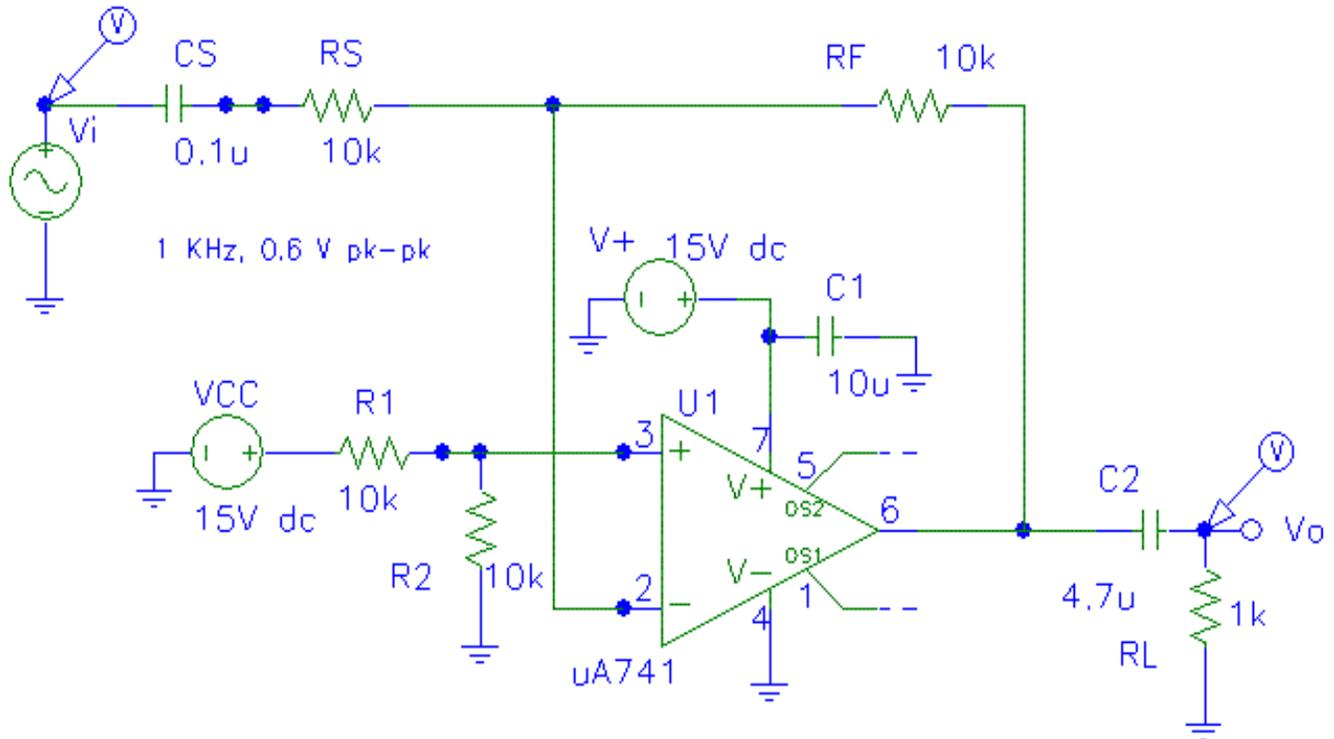

Fig. 2. Single supply inverting amplifier.
4. Turn off and disconnect the power from the breadboard and wire the inverting amplifier circuit shown in Figure 2. Set your oscilloscope to the following approximate settings:
9. Set  $R_f = 100$  kΩ and channel 2 probe as in Fig. 2. Set the i/p frequency to 1 kHz and vary the i/p magnitude from 0.4v to 1.4 volts peak to peak in steps of 0.2 volt. Measure the o/p magnitude at each step and fill the table 3. Graph the o/p as a function of the i/p magnitude. Is the output directly proportional to the input (linear amplifier)? Explain.